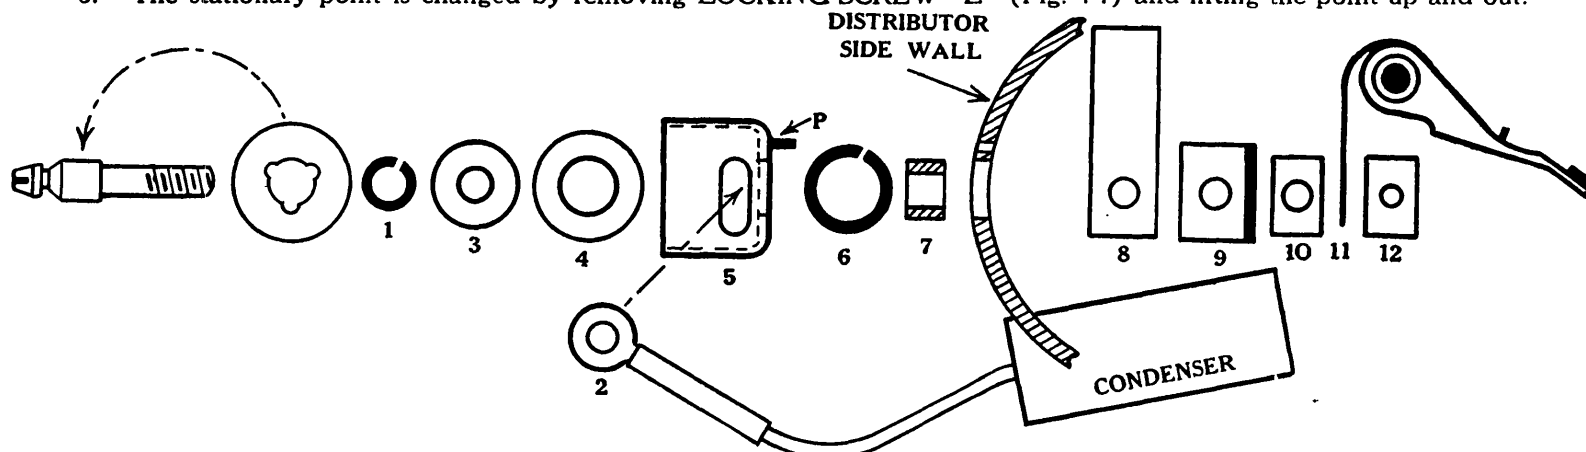

FIG. 15.
4. By use of special wrench turn THREADED SCREW PLATE (Part 12, Fig. 15) counter-clockwise. Do not run it all the way off of the insulated stud.
7. To assemble proceed in reverse order, making sure that the STAKE PIN "P", on Ferrule #5 (Fig. 15) enters hole provided for it in DISTRIBUTOR SIDE WALL.
Before reassembling lay parts out in exactly the same order as shown in Fig. 15.